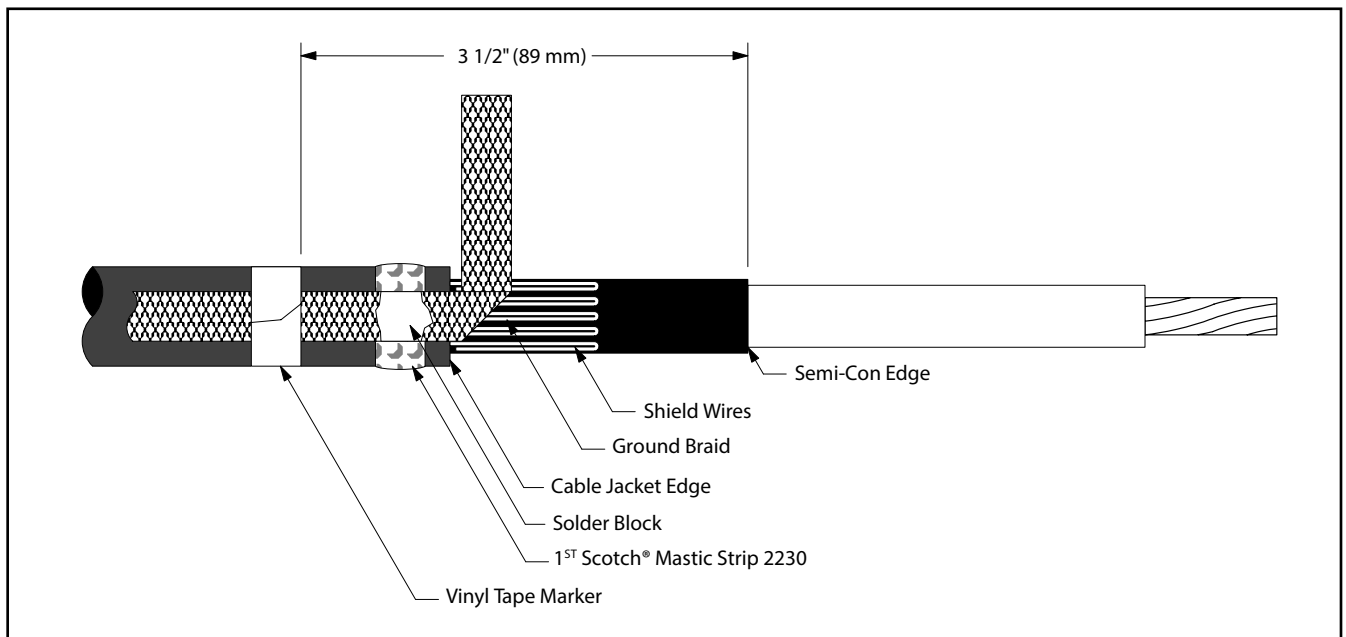

Figure 11
- 8.2 Position pre-formed ground braid with short tail over wire shield directly adjacent to cable jacket cut edge. Position long tail of ground braid, extending over cable jacket with solder block over mastic strip (*Figure 11*). Secure ground braid to cable jacket 3 1/2" (89 mm) from cable semi-con edge using vinyl tape (*Figure 11*).